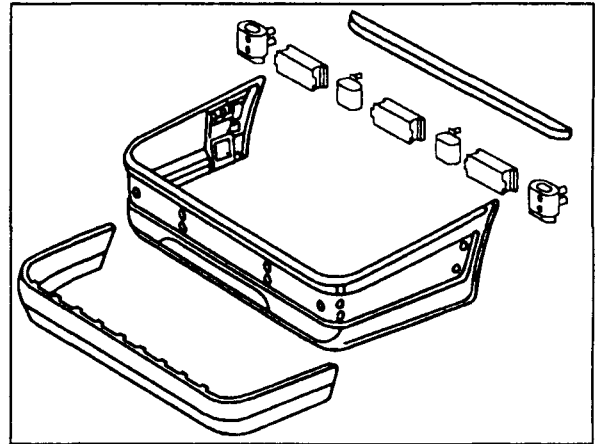

Figure 21
7. Install four brackets as shown in Figure 21.